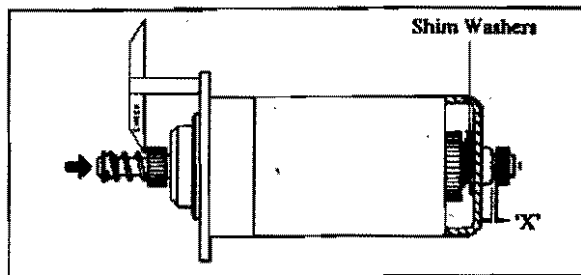

Fig. 74
- (b) When this has been done, push the armature towards the commutator end of the machine as shown in Fig. 74 and again measure gap 'X' which should now be within the limits  $2.03 + 0.50 - 0.00$  mm. (0.079 + 0.02 = 0.00 in.) using Tool No. 6244.4 go no go gauge.
**NOTE.**—If the gap is outside this limit remove the commutator end shield, and fit shim washers (36) on the armature shaft to the value of the excess. For example, if this is 3.04 mm. (0.120 in.) shim washers having a total thickness 0.51 to 1.01 mm. (0.020 to 0.040 in.) should be fitted i.e. four shims each 0.20 mm. (0.008 in.) thick. These shims must be smeared with grease before use.